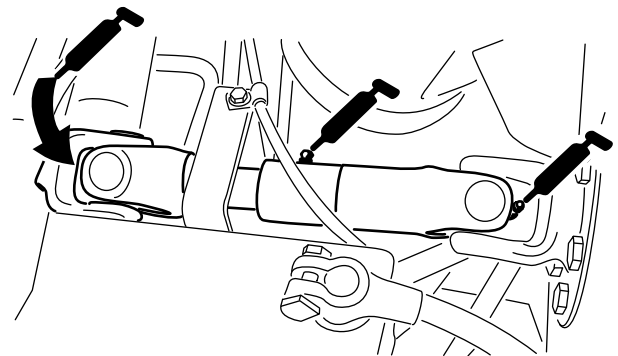

Figure 51
- Pump drive shaft U-joint (3) (Figure 51)